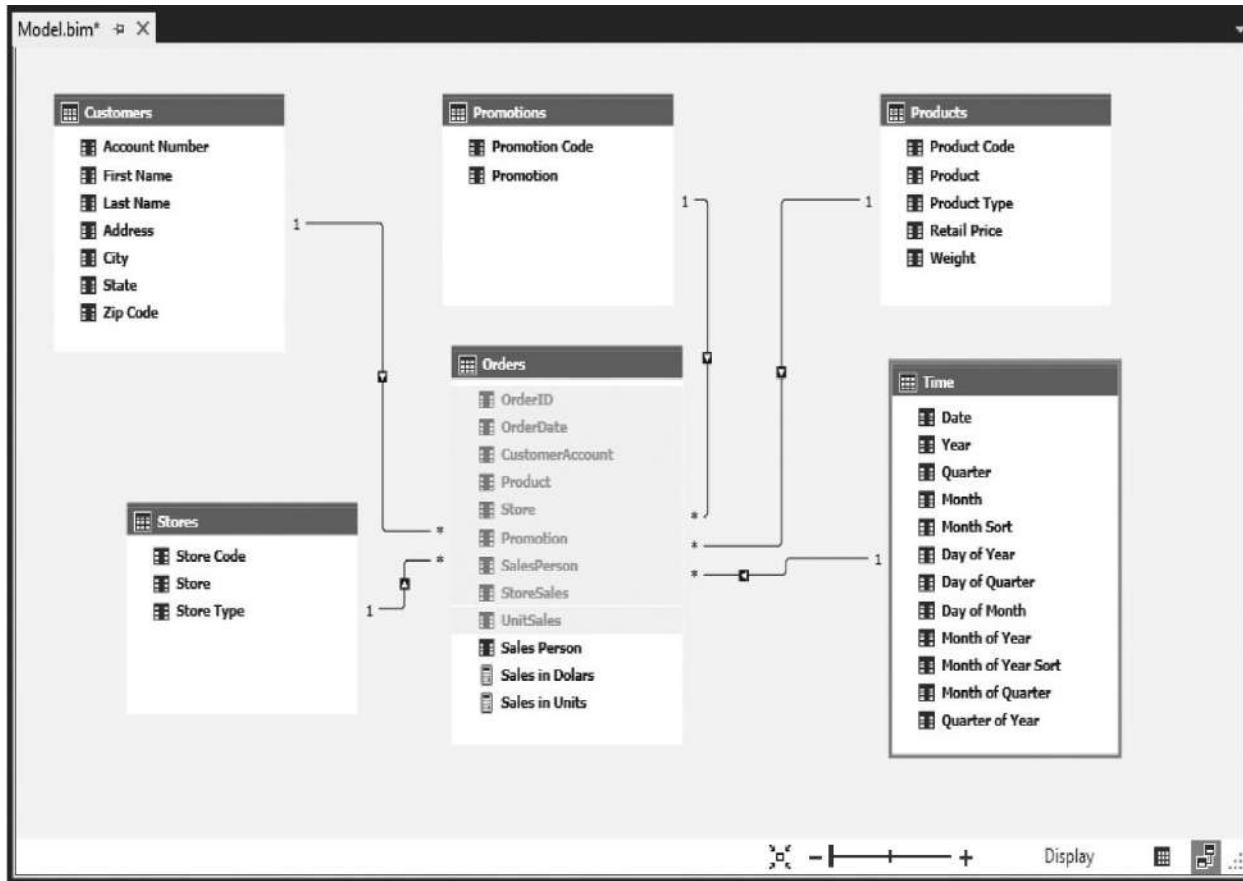

Figure 9-20 Relationships in the diagram view
12. Drag the Promotion field from the Orders table and drop it on the Promotion Code field in the Promotions table. The diagram should appear similar to Figure 9-20.